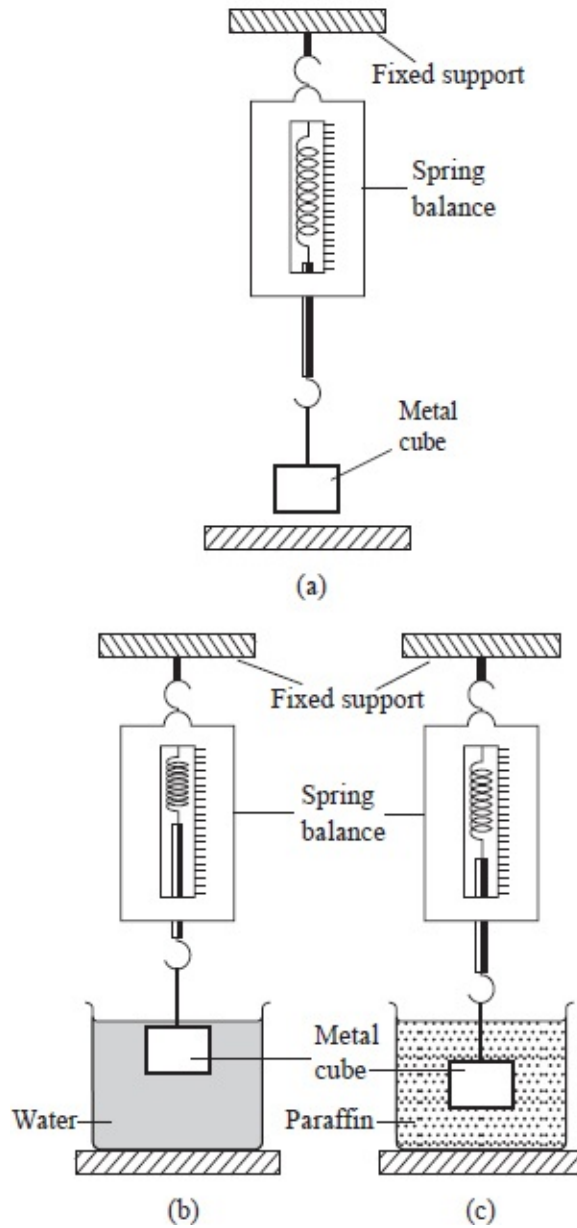

Fig. 3.7: Upthrust in liquids
- Set up the apparatus as shown in figure 3.7 (a). Record the reading of the spring balance.
- Lower the metal cube into the beaker of water as in figure 3.7 (b) and record the reading on the spring balance.